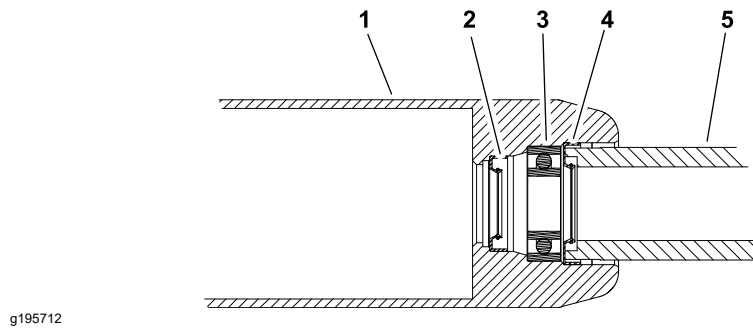

Figure 192
- C. Install first outer seal into roller tube making sure that seal lip (and garter spring) faces end of tube. Use bearing/outer seal tool (refer to Special Tools \(page 2–13\)) and soft face hammer to lightly seat seal against roller shoulder (**Figure 192**). Make sure that bearing still freely rotates after seal installation.